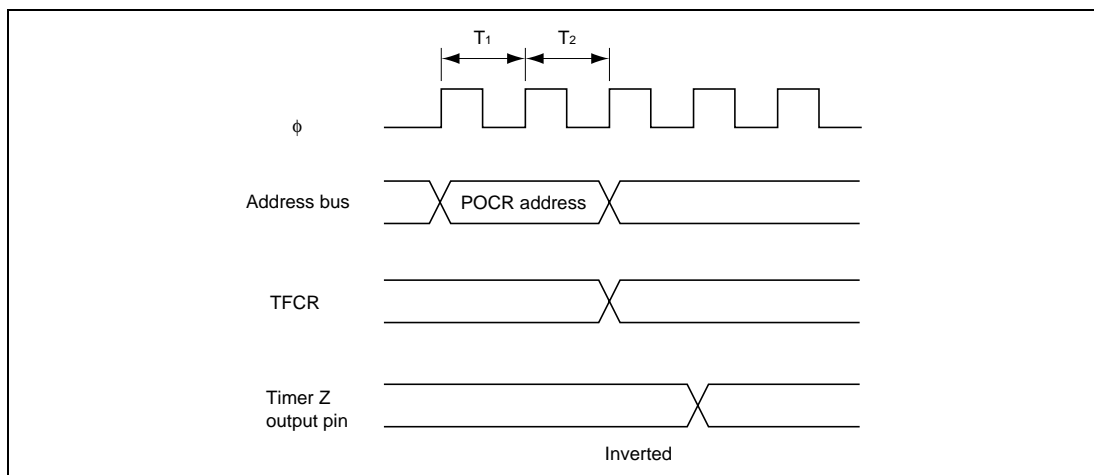

Figure 13.47 Example of Output Inverse Timing of Timer Z by Writing to POCR
4. **Output Inverse Timing by POCR:** The output level can be inverted by inverting the POLD, POLC, and POLB bits in POCR in PWM mode. Figure 13.47 shows the timing.